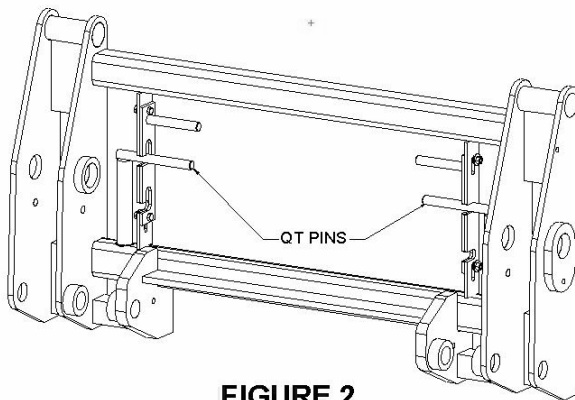

FIGURE 2.
STEP 2 Install the belly mounts onto the tractor—one on the right side and one on the left side. Install the bolts and washers, but **DO NOT TIGHTEN THEM YET!** The belly mounts must be able to move back and forth in the following steps. See Figure 2.
STEP 2 Tilt the bucket down slowly so that the cam block on the loader aligns with the cam pocket on the mountings. See Figure 2. Slowly drive the tractor forward so that the cam blocks slide into the cam pockets and the front tube slides into the yoke tube on the front of the loader.
STEP 2 Gently lower the loader until the stand legs rest on the ground. Tilt the bucket forward until the cutting edge is also resting on the ground. See Figure 2.
2. Rotate QT pins out of the lower notches, raise, and then rotate them into the upper notches of the sliding latches as shown in Figure 2.
2. When the QT frame is flat against the attachment, raise the sliding latches as shown in Figure 2.